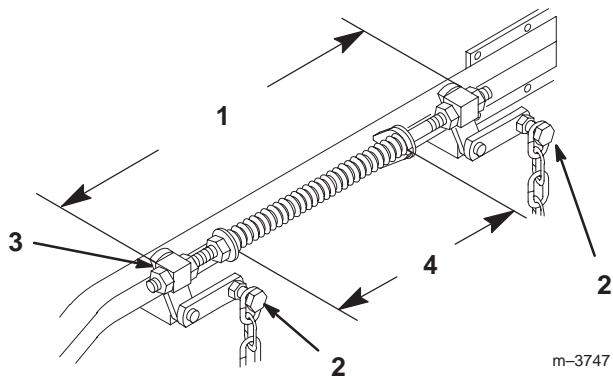

Figure 61
4. Raise the deck to the transport position and take all force off of the two large deck lift springs by loosening nut in front of each spring (Fig. 61).
6. Loosen four (4) top chain bolts in slots. Check the length of the rod/swivel assemblies. The distance from outside of rear swivel to outside of front swivel should be 19-17/32 in. (496 mm) (Fig. 61). Make sure that all four swivels move freely in holes.
2. Springs are compressed so the distance between the two large washers should be 10-1/4 in. (260 mm) (Fig. 61).
3. Adjust by turning nut in front of each spring (Fig. 61). Clockwise will shorten spring; counterclockwise will lengthen spring.